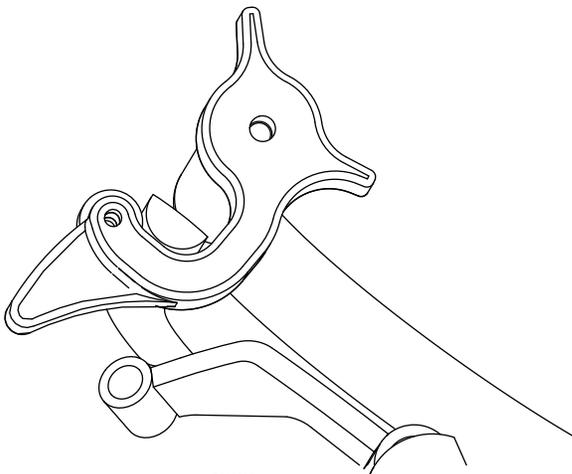

Figure 17
1. With rear of machine still on jack stands and engine running at full throttle, disengage the park brake and move the speed control lever to the midway position. Move the respective drive lever upward/rearward until it reaches the neutral position and engage neutral lock latches (Figure 17). If the tire rotates in either direction, the length of the drive lever link will need to be adjusted.